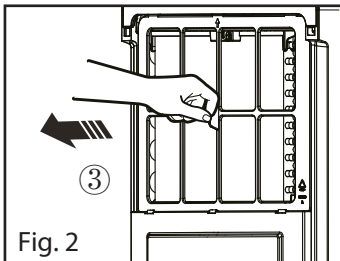

Fig. 2
Pull the air filter (10) outwards as shown in Fig. 2 step ③, then remove it.